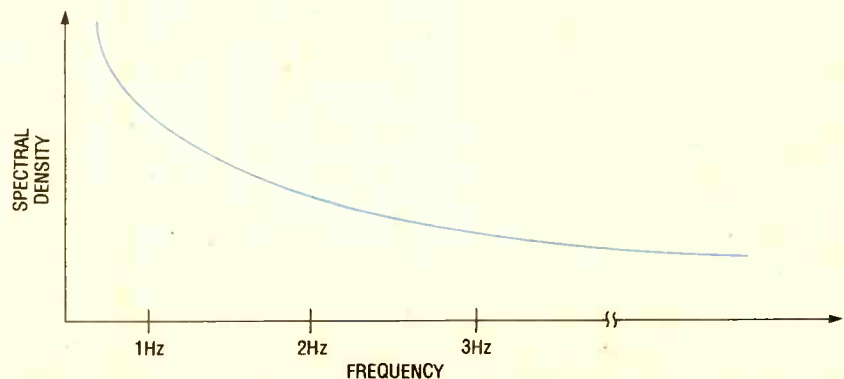

Fig. 3. Unlike white noise, the spectral density of pink noise drops with increasing frequency.
So why is the one-shot circuit needed? Look at Fig. 3 for the answer. There are two cases, but in both the output pulse duration, T , is the same; only the pulse repetition rate (PRR), or in other words the frequency, is different. Also note that the pulses all have the same amplitude (V_{CC}). Thus, the area under each pulse is the same for both graphs:
Fig. 3. The average voltage of a constant-duration, constant-amplitude pulse train varies only with the repetition rate. Shown here are a low PRR (A), and a high PRR (B).
In many cases, spectral density falls off at the rate of $1/f$, which means that the spectral density is inversely proportional to frequency. Figure 3 illustrates this idea. In effect the noise is made up of signals whose frequency components have their greatest magnitude at lower frequencies, just like red light. For that reason, noise with a spectrum that falls off as $1/f$ is called "pink" noise. Pink noise has